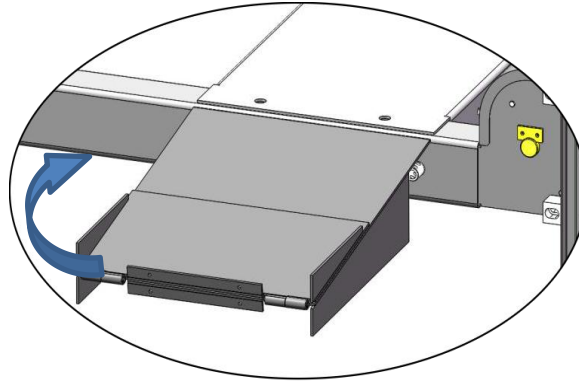

Fig. 29
O. Install Rear wheel stop plates (See Fig. 29)